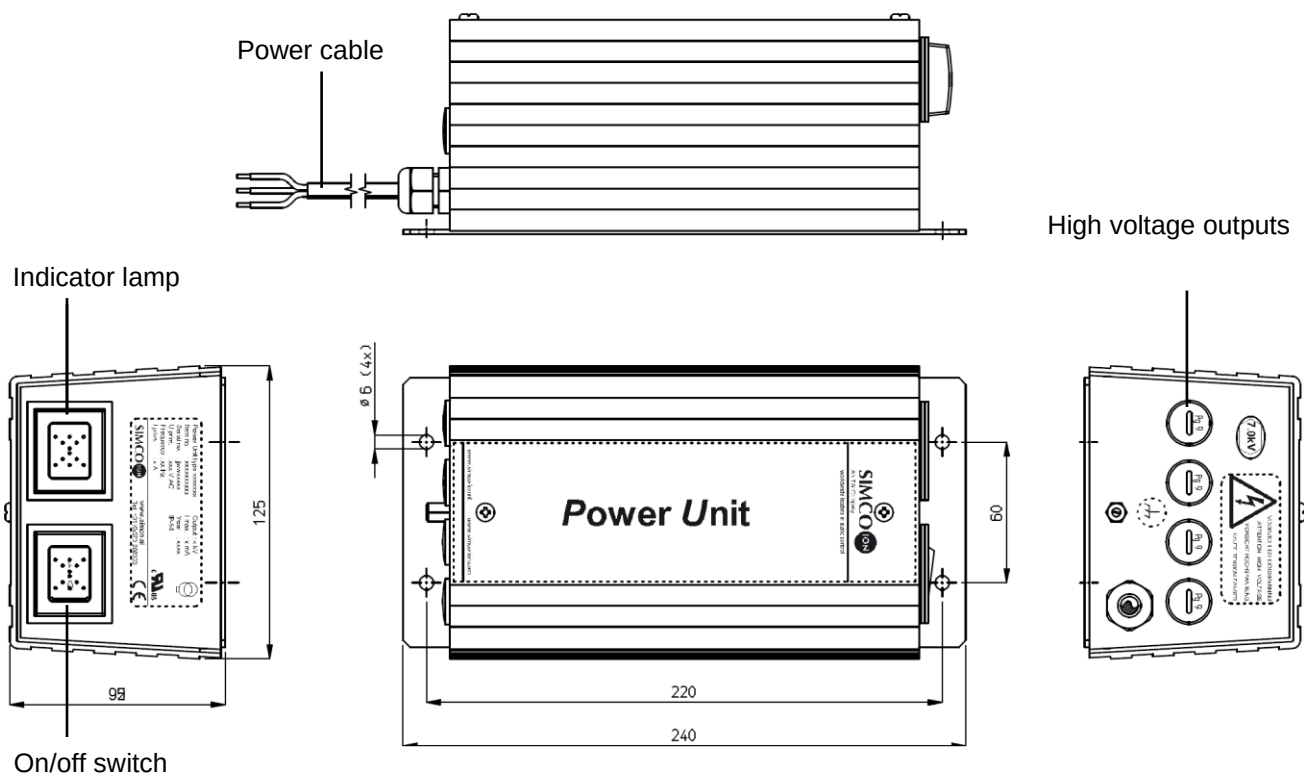

Figure 1: Type A power unit
- Attach the power unit to a stable wall or machine part using the 6-mm diameter fixing holes in the base plate (see chapter 1, figure 1).